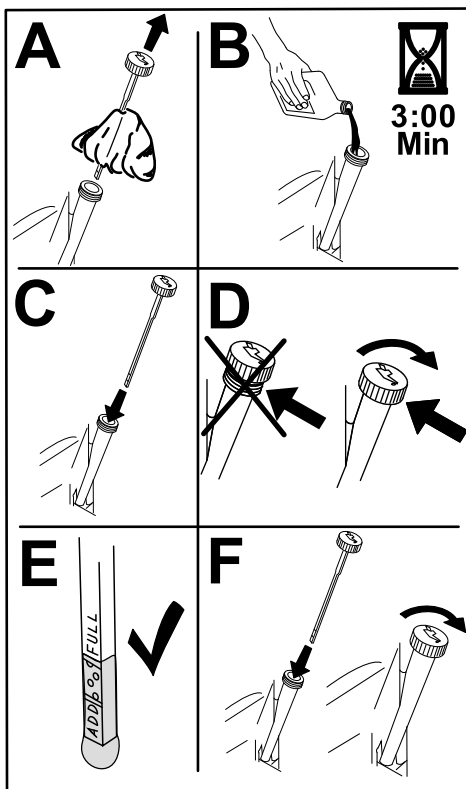

Figure 35
6. Slowly pour approximately 80% of the specified oil into the filler tube and slowly add the additional oil to bring it to the **Full** mark (Figure 35).